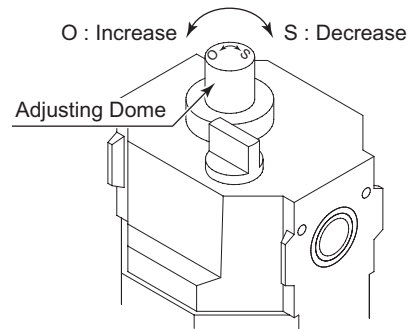

Fig. 5
#### (3) Adjustment of Oil Drip Rate (Fig. 5)
① Set the air pressure to the air motors recommended maximum air pressure.
② Adjust the Oil Drip Rate to the recommended volume which is Table 3.